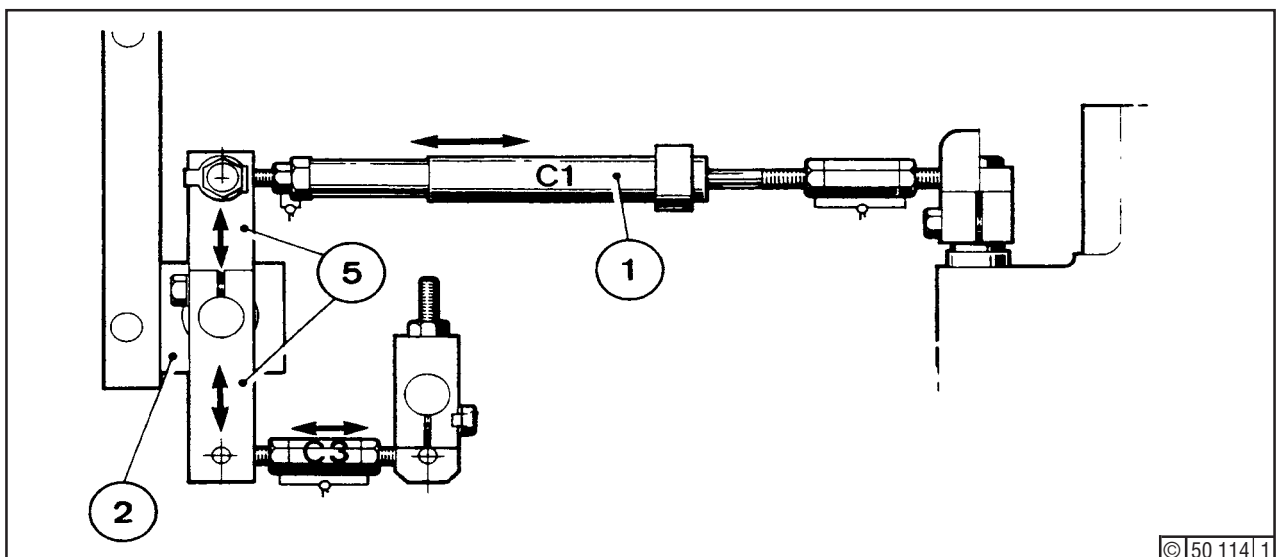
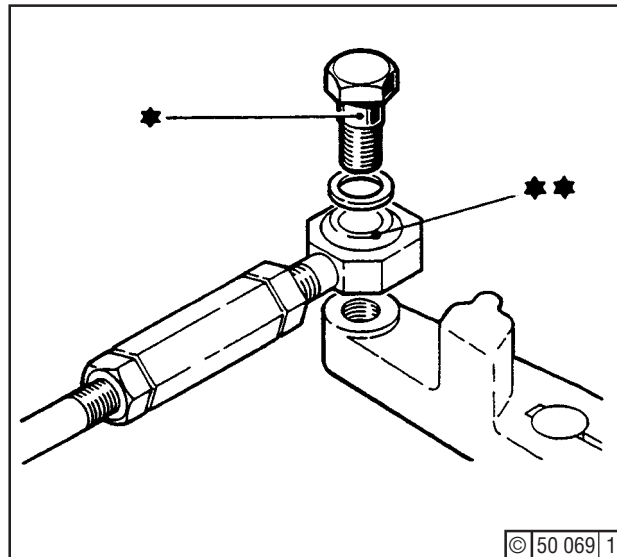

Fig. 1
Fig. 2
Move link rods C1 (Fig. 1) and C3 to and fro. If play is found to exist, the link heads are worn and must be replaced (see "Reconditioning").
Inspecting Telescopic Piece C1(Fig. 1)
Undo fitted hex. bolt (*) - Fig. 2 -. At the other end of the link, release locking plate and screw out fitted hex. bolt. Take link rod out of forked lever, compress by hand, and release. The resistance thereby occurring should result solely from the compression spring inside the telescopic piece (1) - Fig. 1 -. The link rod should then return to its original position.
If not, the telescopic piece must be reconditioned. Reassembly is in the reverse order, the fitted hex. bolt (*) - Fig. 2 - then being inserted with locking compound Deutz DW 57.
Renewing Heads of Links C3 - Fig. 1 -